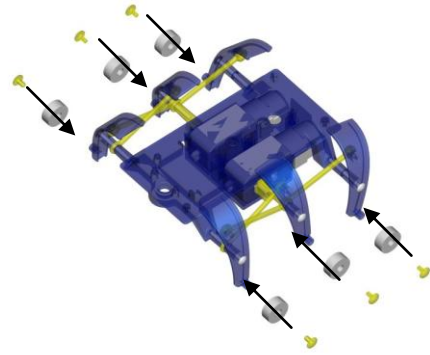

Fig. 9
8. Attach the feet to the legs using the remaining short screws as shown in fig. 9.